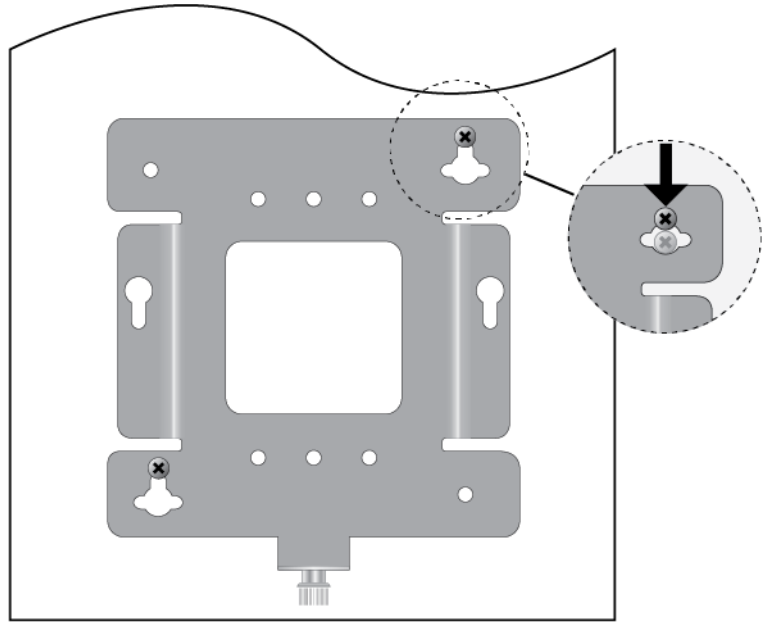

Figure 19. Installing the Wall Mounting Bracket On the Screws
6. Insert the openings of the bracket key-hole slots under the two screw heads and slide the bracket into the narrow end of the key-hole slot openings. Refer to Figure 19 on page 53.